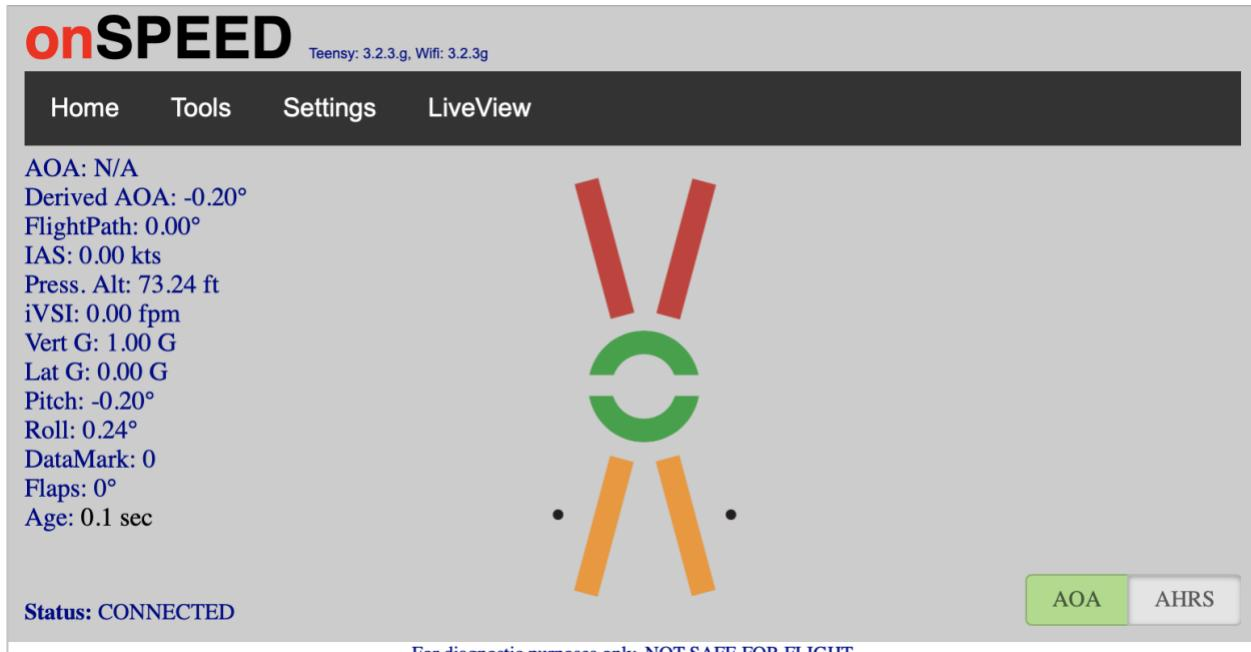
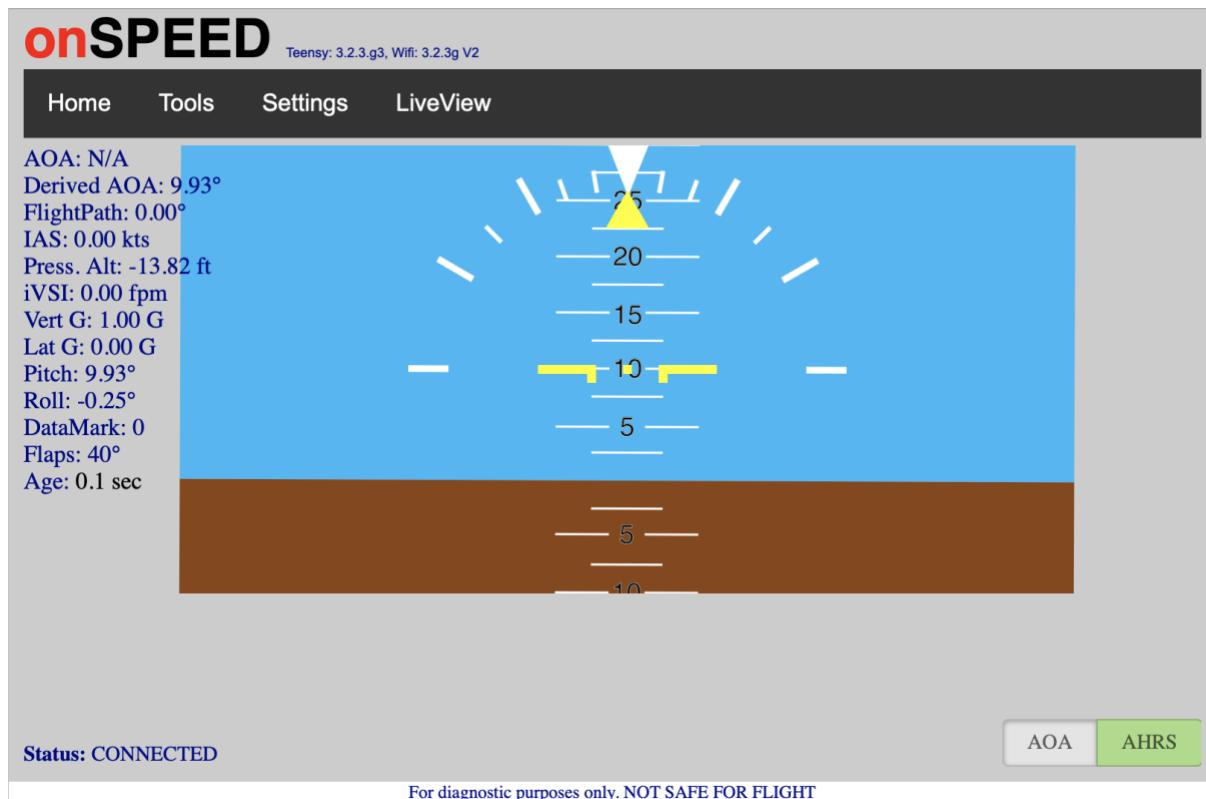

Figure 23. Live view AOA display.
Figure 24. Live view AHRS display (tailwheel equipped aircraft on the ground shown).
*Live View.* Two live view options are available for diagnostic and test purposes: AOA (Figure 23) and AHRS (Figure 24).
1. The optional M5 visual display always shows attitude data from the on-board IMU. The Live View AHRS display shows either IMU or EFIS data (if equipped) depending on the calibration source selected in the SETTINGS > SYSTEMS CONFIGURATION menu. (Figure 24). **The optional M5 cannot display EFIS data.**